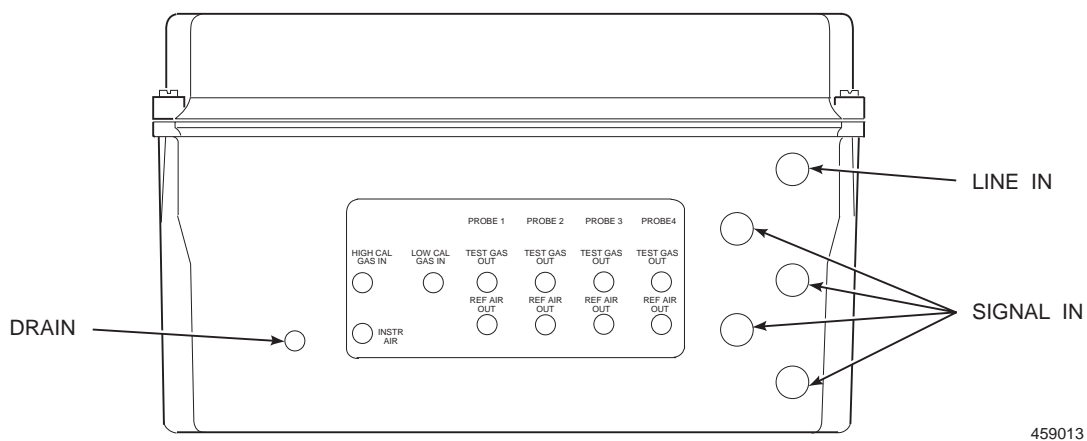
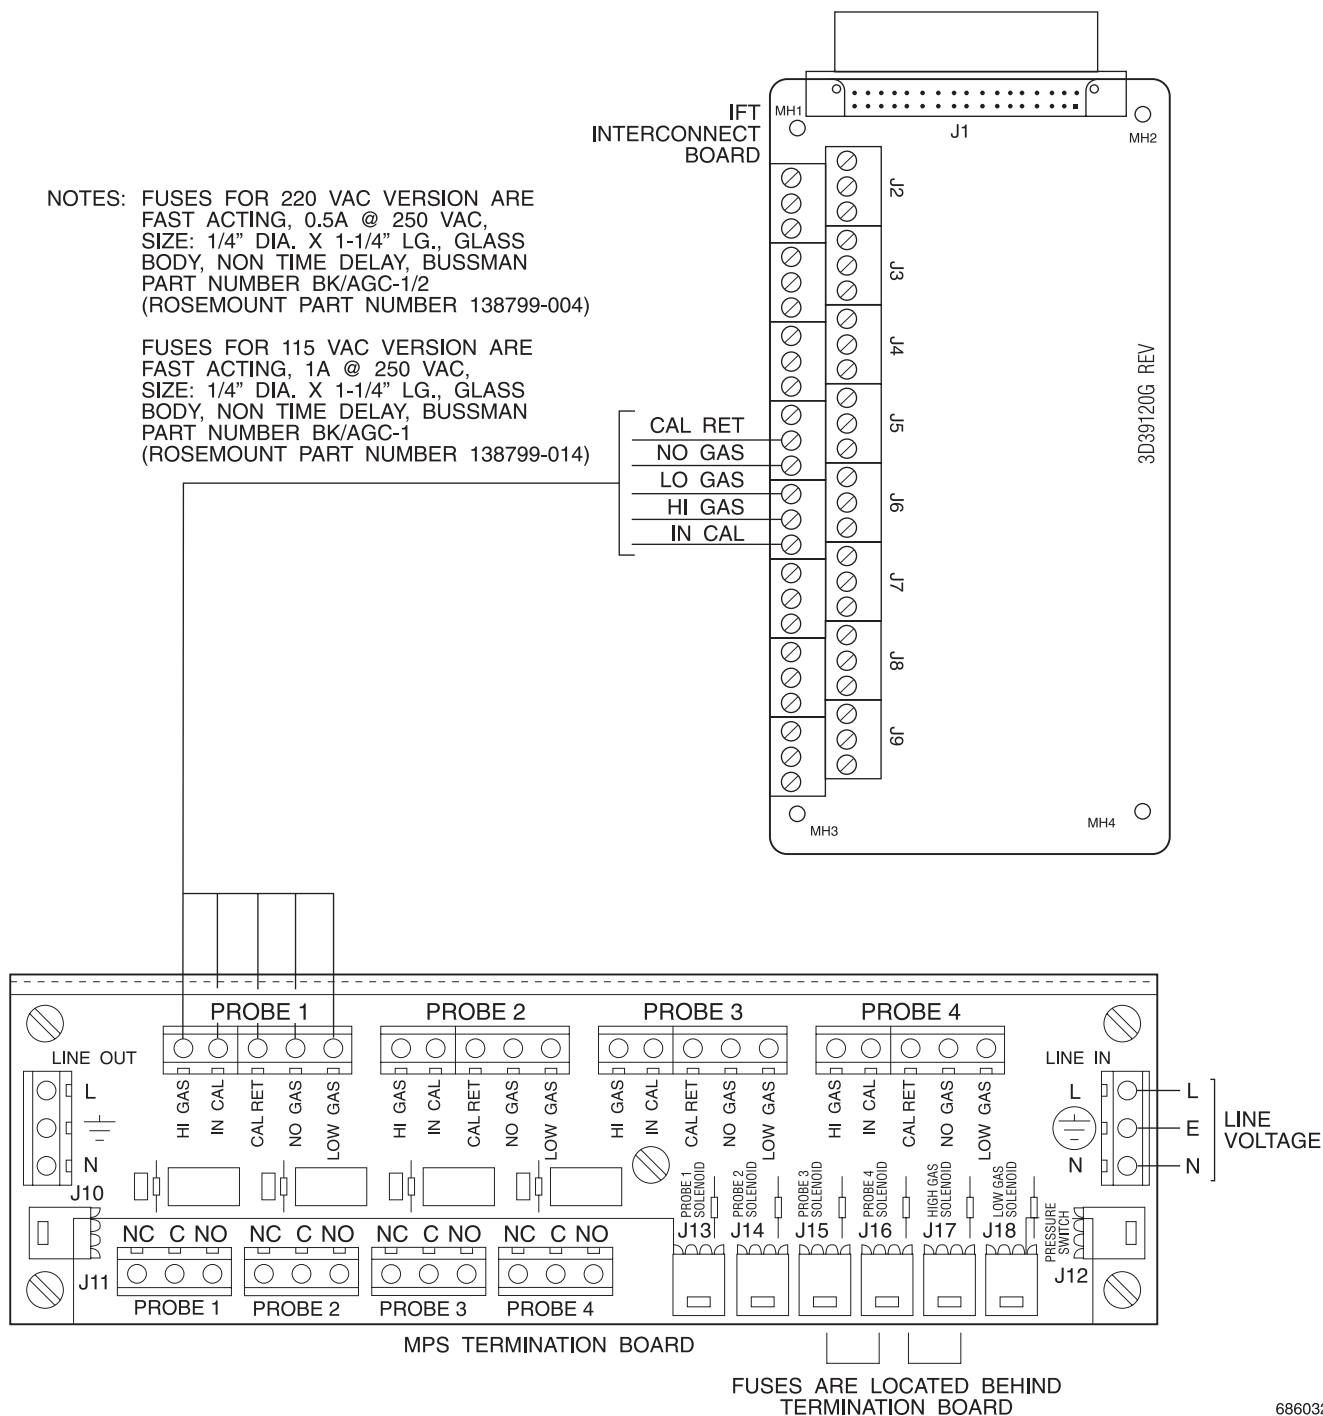

Figure 2-18. MPS Gas Connections
Figure 2-19. MPS Electrical Connections
- Gas Connections.** Figure 2-18 shows the bottom of the MPS where the gas connections are made. 1/4 in. threaded fittings are used.
- c. **Electrical Connections.** Electrical connections should be made as described in the electrical installation diagram, Figure 2-19. All wiring must conform to local and national codes. The electrical connections will exist only between the electronics package and the MPS to enable automatic and semiautomatic calibration. If more than one probe system is being used, the additional probes and electric packages would be wired similarly to the first probe.
MPS power supply fuse locations and specifications are shown in Figure 2-19.
1. Run the line voltage through the bulkhead fitting on the bottom of the MPS where marked LINE IN, Figure 2-18. Refer to Figure 2-19. Connect the line voltage to the LINE IN terminal on the MPS terminal board located inside the unit. Tighten the cord grips to provide strain relief.
3. Make the connections from the MPS to the IFT as shown in Figure 2-19. Run wires from the MPS Termination Board inside the unit through the bulkhead fitting on the bottom of the unit where marked SIGNAL IN, Figure 2-18. After the connections are made, tighten the cord grips to provide strain relief.